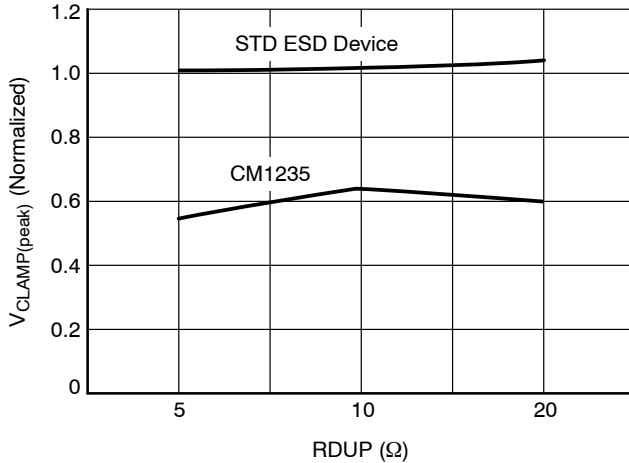
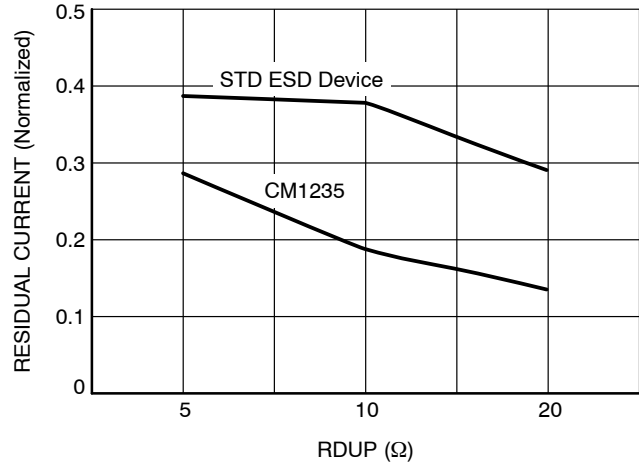
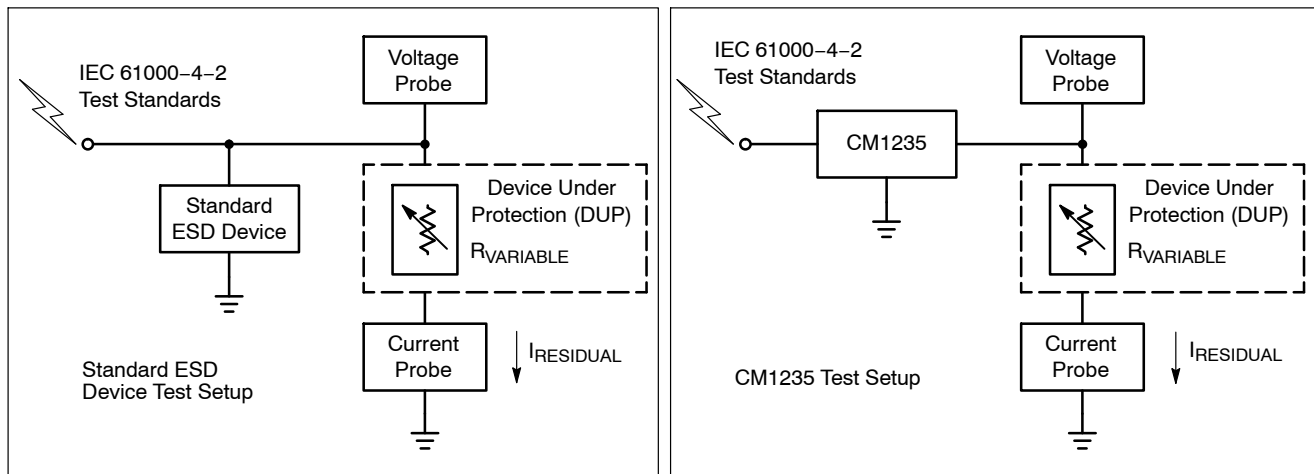

Figure 5. Normalized VPeak (8 KV IEC-61000 4-2 ESD Contract Strike) vs. Loading (RDUP)*
Figure 6. Normalized Residual Current into DUP vs. RDUP*
Figure 7. Test Setups: Standard Device (Left) and CM1235 (Right)
1. Impedance values for deviation from continuous 100 Ω uncompensated differential microstrip, with typical layout as measured. See Figure 7. Product parametric performance is indicated in the Electrical Characteristics for the listed test conditions, unless otherwise noted. Product performance may not be indicated by the Electrical Characteristics if operated under different conditions.
Figure 5 shows that the CM1235 (ESD protector) lowers the peak voltage and clamping voltage by 45% across a wide range of loading conditions in comparison to a standard ESD protection device. Figure 6 also indicates that the DUP/ASIC protected by the CM1235 dissipates less energy than a standard ESD protection device. This data was derived using the test setups shown in Figure 7.